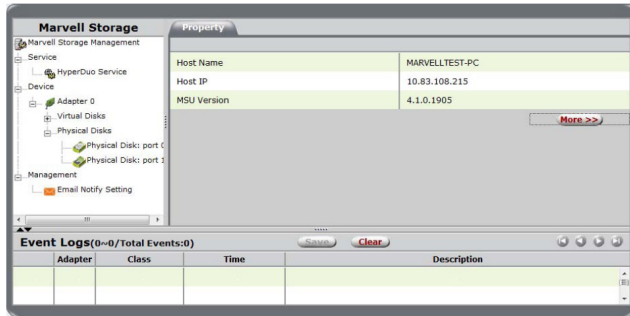

Figure 6
12. After log in, you can access to the MSU user interface for further VD management. See **Figure 6**. Refer to your UserGuide on the software CD for more details.